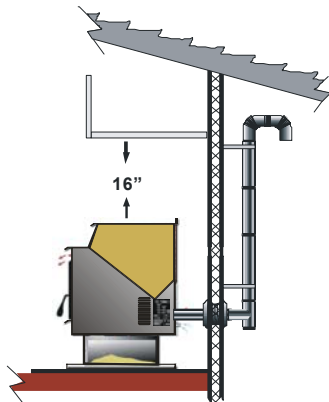

Figure 17
-  **HORIZONTAL, OUT THE WALL, THEN VERTICAL** to a minimum of 5 feet, into a 90-degree elbow and terminating with a 45-degree elbow pointed downward. Figure 17.